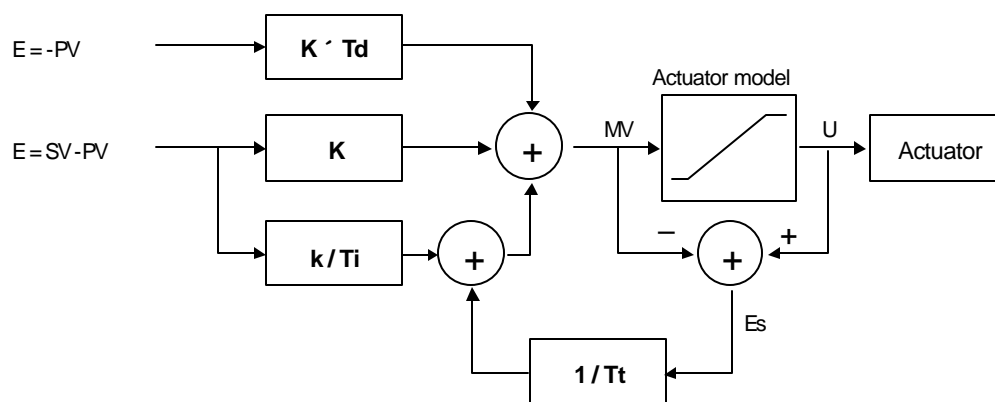
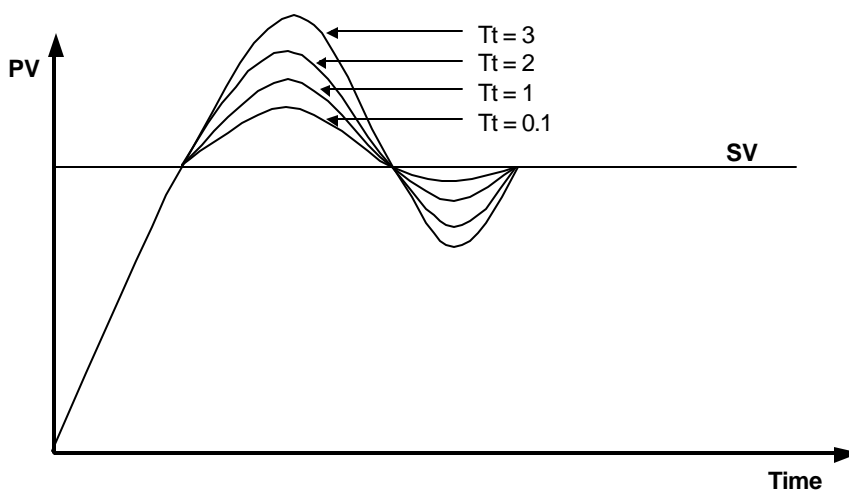

Fig. 2-13 The block diagram of anti-windup control system
Fig. 2-14 The PV output characteristics with different T_t values.
There are several methods to avoid the windup of actuator. The most popular two methods are adding another feedback system to actuator, and using the model of actuator. The Fig. 2-13 shows the block diagram of the anti-windup control system using the actuator model.
As shown in the Fig. 2-13, the anti-windup system feedback the multiplication of gain ($1/T_t$) and E_s to the input of integral term. The E_s is obtained as the difference value between actuator output (U) and manipulation value of PID controller (MV). The T_t of the feedback gain is tracking time constant, and it is in inverse proportion with the resetting speed of integral term. Smaller T_t will cancel the windup of actuator faster, but too small T_t can cause anti-windup operation in derivative operation. The Fig. 2-14 shows several T_t value and PV in the PI control system.